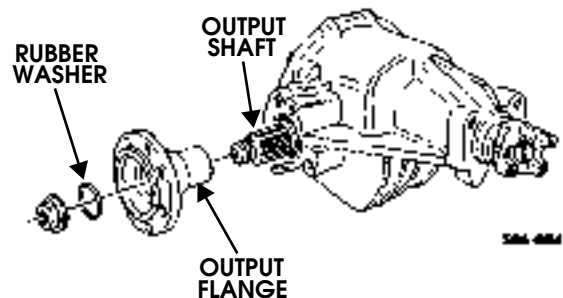

Figure 9-103: Output Shaft Seal Installation
68. Lubricate sealing surface on output flanges with lubricating oil (Figure 9-103).